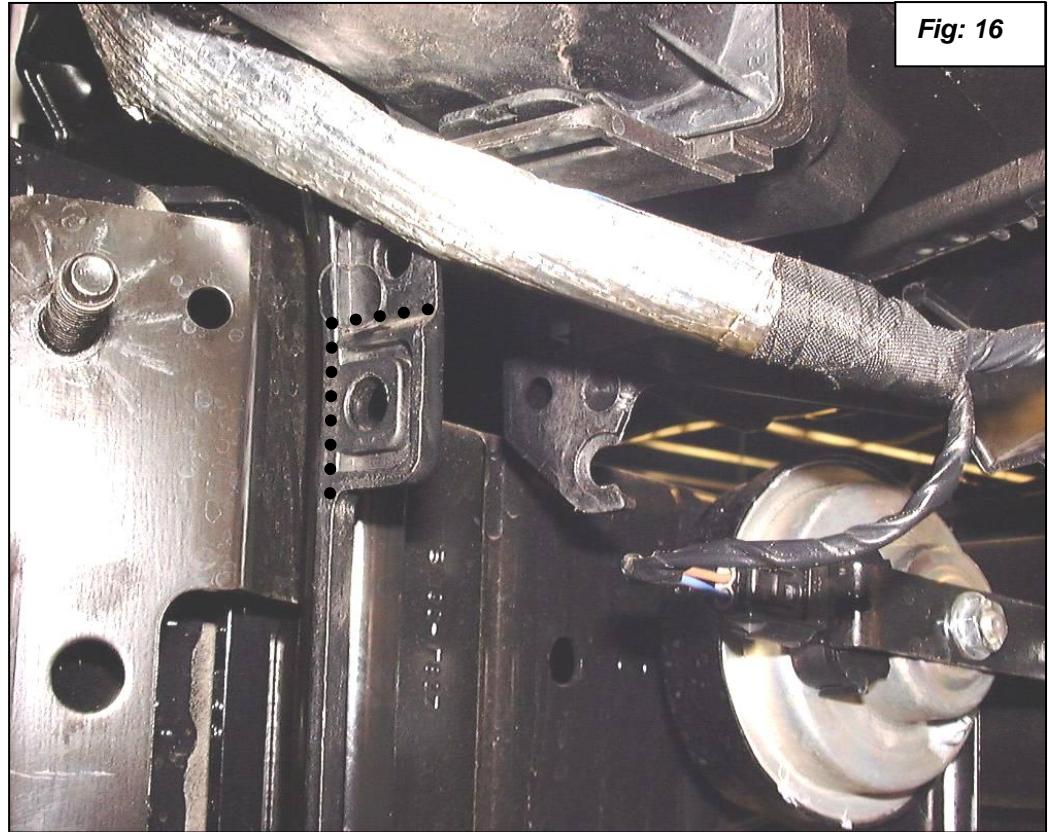

Fig: 16
20. Remove the stock headlight support bracket. Cut off the lower half of the plastic mounting tab that the headlight support attached to. You will need the space for clearance for the oil cooler. See **figures 16 and 17**. Make sure you do not cut off the upper mounting tab. You will need to replace the stock headlight support with the new Dinan headlight support and attach it to the upper hole in step 29.